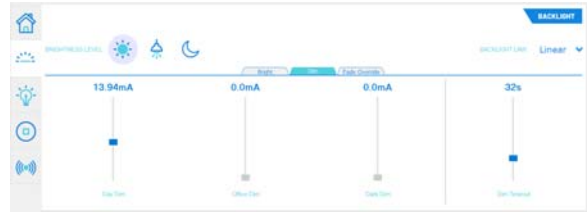

Figure 10. BACKLIGHT Dim Tab for Windows
5. Under the **Dim** tab within the **BACKLIGHT** main tab for Windows, users can configure the dim current for **Day Dim**, **Office Dim**, **Dark Dim**, and **Off Timeout Dim** (see Figure 10).